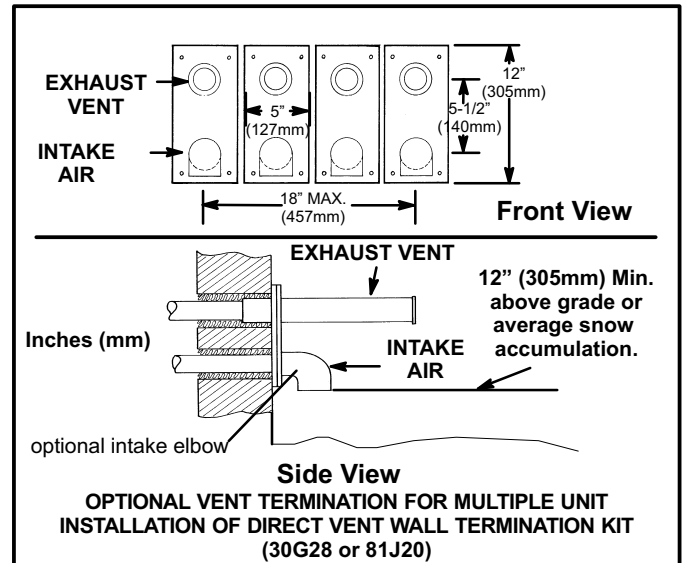

FIGURE 39
8. A multiple furnace installation may use a group of up to four terminations assembled together horizontally, as shown in figure 39.